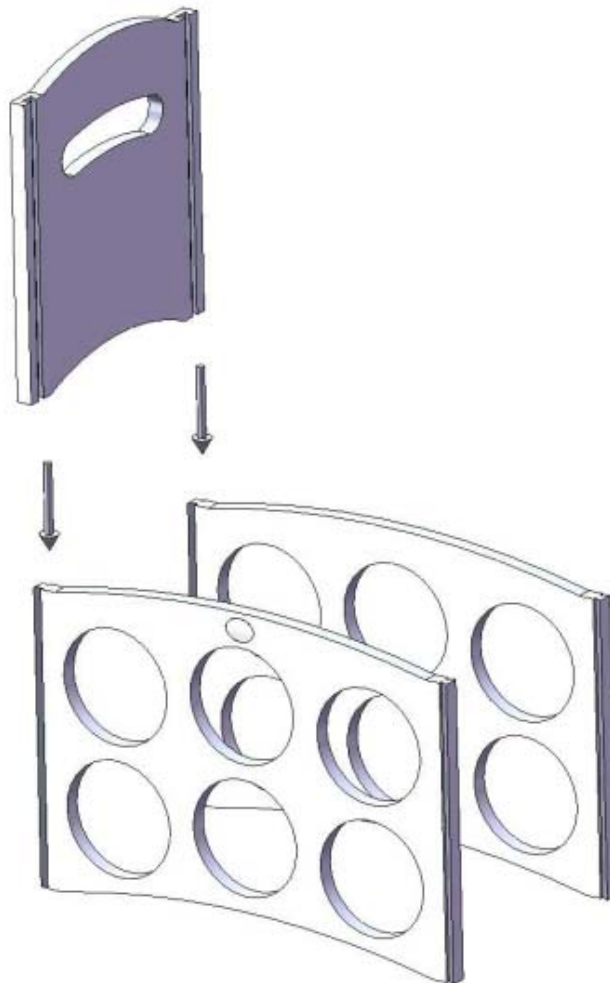

Figure 2
2. Take the first side panel and slide the grooves over the ends of both the front and back panels until the top is flush (**Figure 2**).